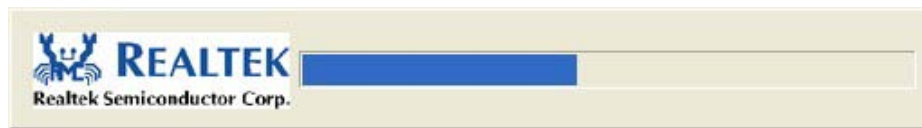

Figure 8-24: Audio Driver Installation
Step 7: The audio driver installation begins. See **Figure 8-24**.